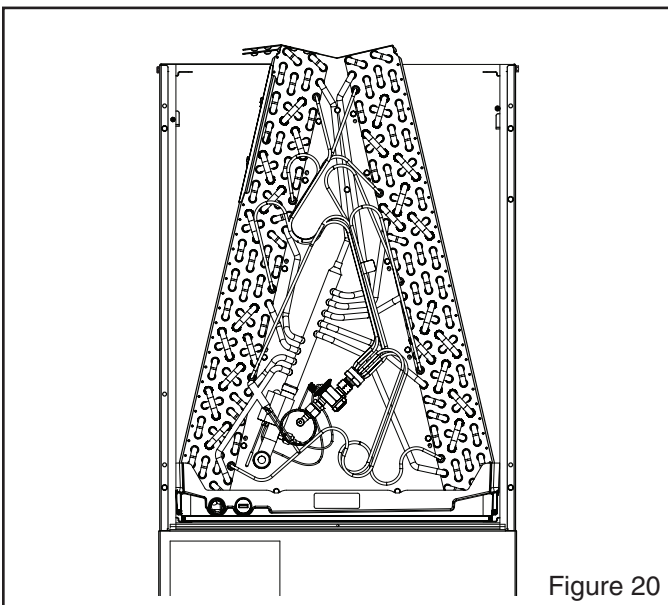

Figure 20
1. Slide the replacement coil into the unit. See Figure 20.